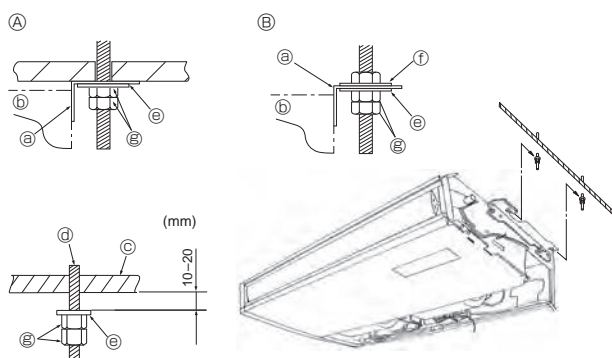

Fig. 3-5
3.3. Installing the indoor unit (Fig. 3-5)